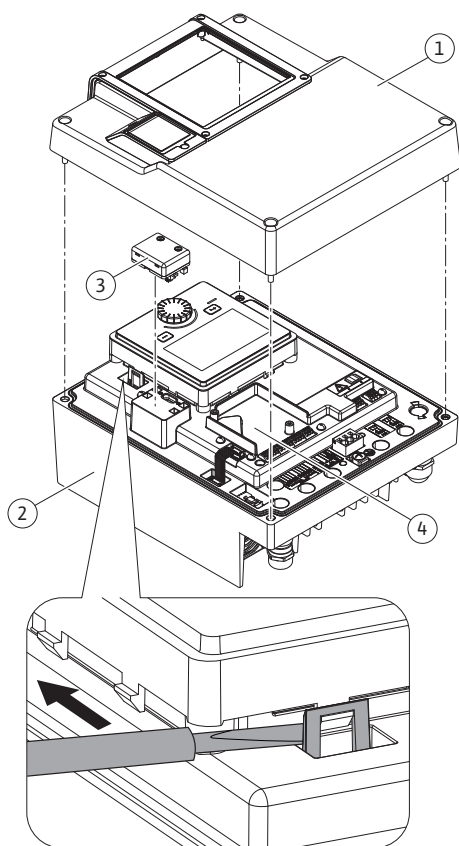
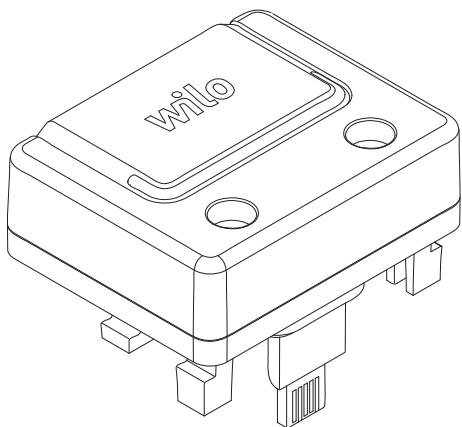

Fig. 25: Electronic module
Fig. 26: Wilo-Smart Connect module BT
1. Carefully open the snap-in hooks (Fig. 25) with a tool (e.g. screwdriver).
The Bluetooth interface Wilo-Smart Connect module BT (Fig. 25, Item 3, and Fig. 26) is used to connect to mobile end devices such as smartphones and tablets. The Wilo-Smart Connect feature is in the Wilo-Assistant app. Using the Wilo-Smart Connect feature, you can operate and adjust the pump and read out pump data. For settings, see “Commissioning” [► 44] section.
1. Loosen the four screws of the upper part of the electronic module (Fig. 25, Item 1; Fig. 1, Item 2).
3. Insert the Wilo-Smart Connect module BT into the designated Wilo-Connectivity Interface. See Fig. 25, Item 3.
CIF modules (accessories) are used for communication between pumps and building management systems. CIF modules are attached in the electronic module (Fig. 25, Item 4).